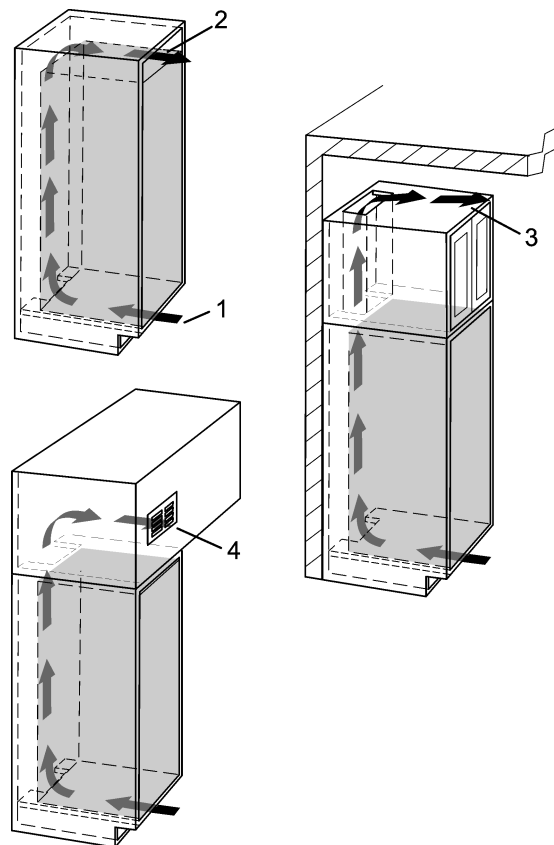

Fig. 1
- An effective ventilation cross-section of at least 31 in² (200 cm²) must be present at the air intake Fig. 1 (1) and air outlet Fig. 1 (2).
- The upper ventilation cross-section can be set up directly above the appliance *Fig. 1 (2)*, near the ceiling above a cabinet *Fig. 1 (3)*, or as an air vent in an intermediate ceiling *Fig. 1 (4)*.